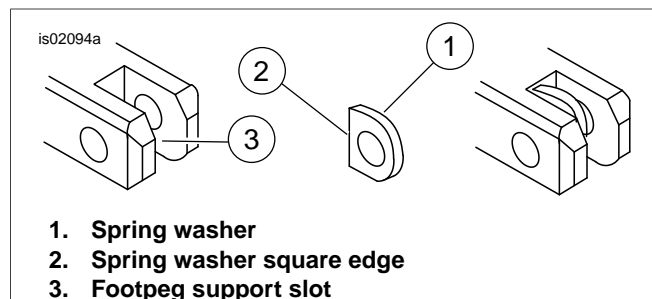
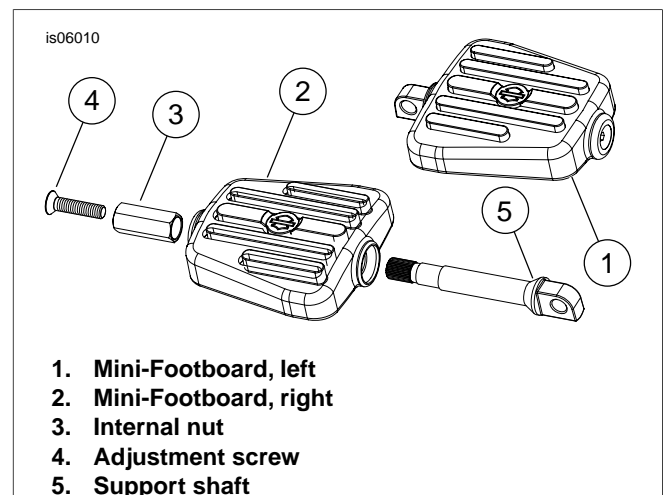

Figure 1. Footpeg Spring Washer Installation
Figure 2. Mini-Footboard Kit
See Figure 2
See Figure 1. When performing the next step, verify that the spring washer is positioned inside of the footpeg support with the square edge (2) towards the inside of the support.
4. Install the new footpegs in the same manner as the old footpegs were installed. Insert a spring washer (1) and the mount end of the footpeg inside the slots (3) of the footpeg supports.
6. See Figure 2. To adjust the footboard for comfort:
- a. Remove the adjustment screw (4).
- b. Partially remove the tread assembly (1, 2, 3) from the support shaft (5).
- c. Rotate the tread assembly around the support shaft. Teeth on the shaft will engage the internal nut (3) every 10 degrees.